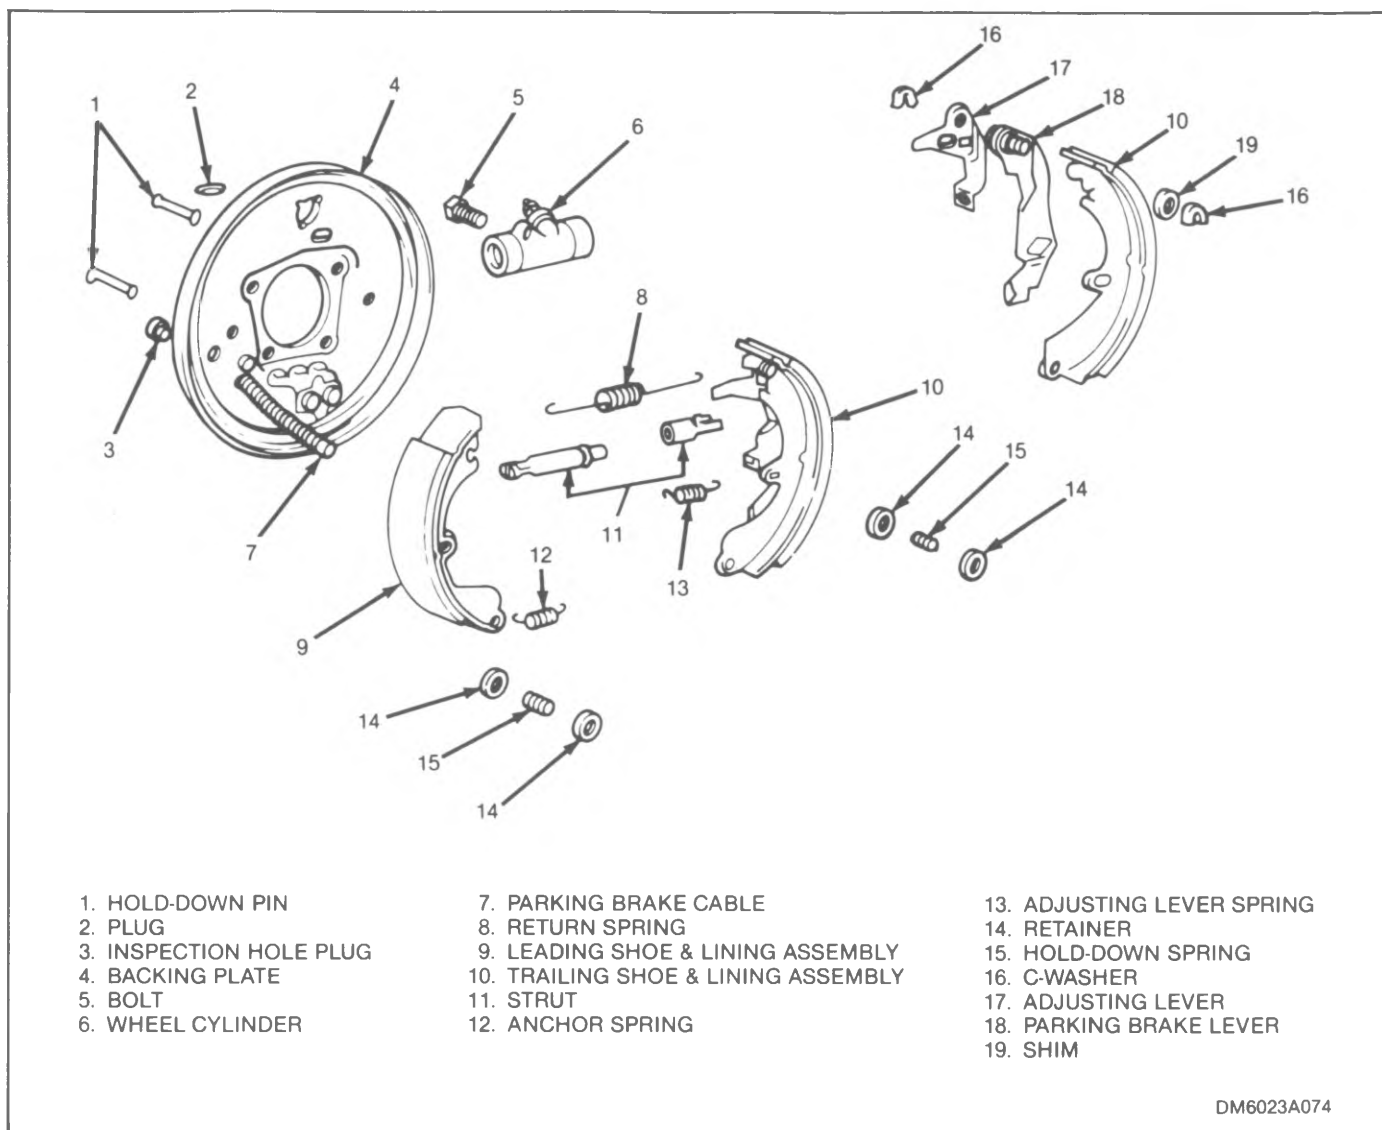
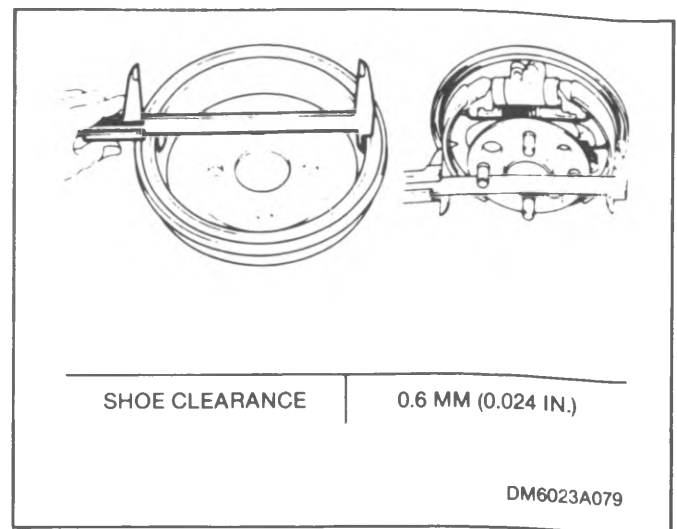
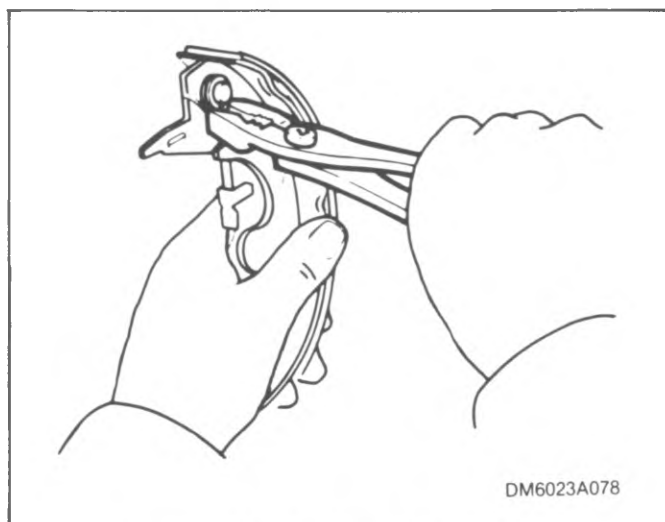

Figure 4-30. 1985-86 Nova Leading-Trailing Drum Brake Parts
Figure 4-35. Shoe Clearance
Figure 4-34. Securing C-Washers
4-28. 1985-86 NOVA LEADING-TRAILING DRUM BRAKE. Refer to figure 4-30 for identification of parts for the leading-trailing drum brake. After removing brake drums (refer to paragraph 4-21), proceed as follows to remove and replace brake shoes and hardware:
19. After proper parking brake lever (18) to trailing shoe (10) clearance is obtained, bend in ends of C-washers (16) using pliers (figure 4-34) to secure.
20. Engage strut (11) in notch in trailing shoe (10) and hook end of return spring (8) into place in shoe. Install adjusting lever spring (13).
21. Moving trailing shoe and lining (10) and attached parts into position, connect parking brake cable (7) to parking brake lever (18). Pass cable through notch in backing plate (4).
22. Position trailing shoe & lining (10) engaging wheel cylinder (6) at top and anchor at bottom. Attach shoe with pin (1), hold-down spring (15) and retainers (14) using suitable brake spring pliers.
23. Hook anchor spring into shoe and linings (9 and 10), then move leading shoe and lining into position on backing plate (4), engaging wheel cylinder (6) at the top and anchor at the bottom.
24. Secure leading shoe (9) in place with hold-down pin (1), hold-down spring (15) and retainers (14).
25. Connect free end of return spring (8) to leading shoe and lining (9).
26. Move parking brake lever (18) back and forth and check that adjusting lever (17) turns star wheel on strut (11). If not recheck brake assembly (see figures 4-30 and 4-32).
27. If adjusting operation is OK, hold adjusting lever away from star wheel on strut (11) and turn to compress strut to its shortest length.
28. Install drum and pull parking brake lever all the way up until clicking sound is no longer heard. Remove drum and check drum to shoe clearance to be 0.6 mm (0.024 in.) as shown in figure 4-35. If incorrect, check parking brake system.